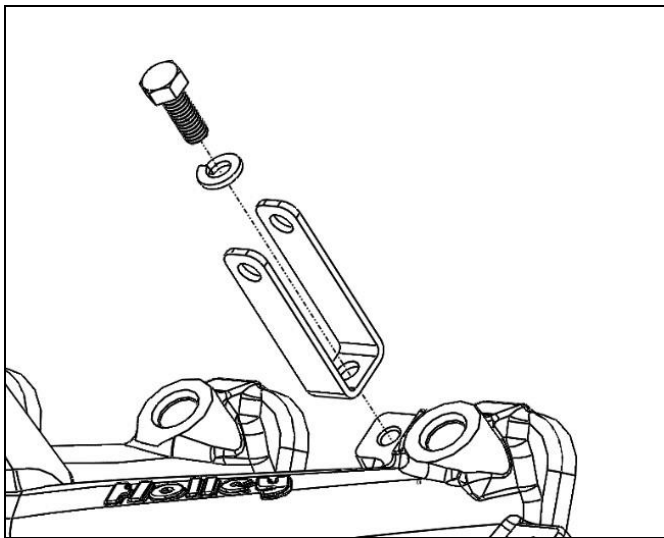

Figure 3
1. Place the appropriate brackets in position. Before installing the fasteners, apply a drop of oil to the threads of the hex head cap screws. Attach the brackets to the intake manifold with the 5/16 x 7/8" long hex head cap screws and lock washers (**Figure 3**). Temporarily position the fuel rail in the brackets to confirm parallelism of the brackets.